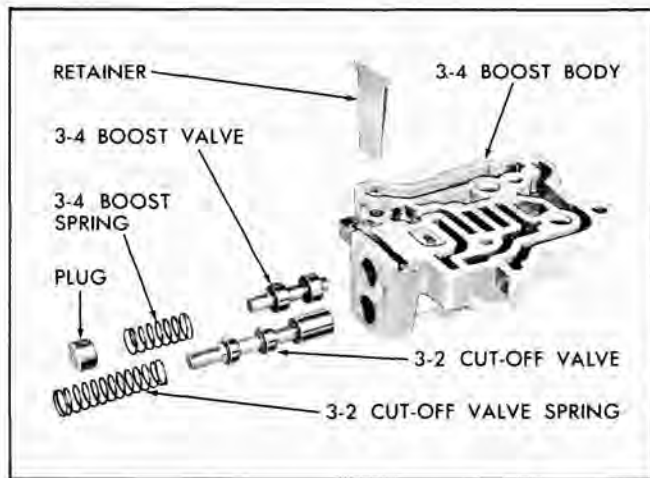

Fig. 109 3-4 Boost Body—Exploded
3. Remove the retainer from the 3-4 boost body. Retainer is under spring pressure (Fig. 109).